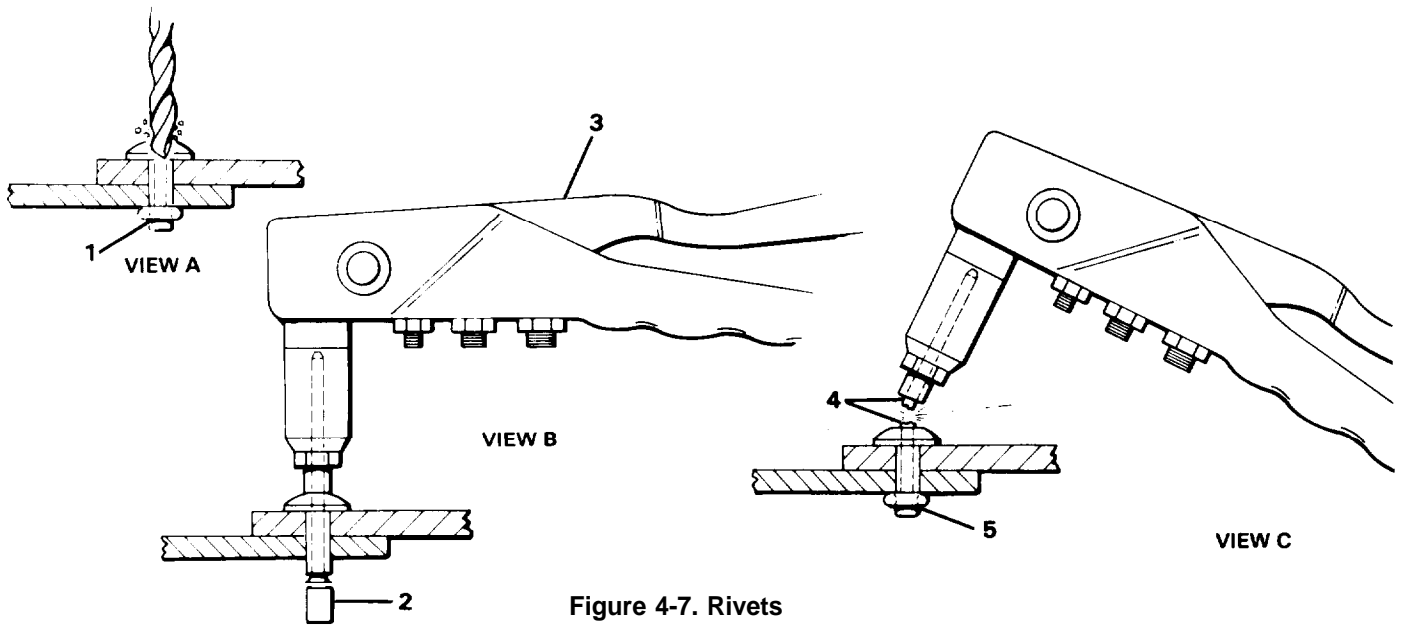

Figure 4-7. Rivets
- a. Refer to Figure 4-7, View A and drill out remainder of damaged rivet (1), if necessary.
- b. Refer to Figure 4-7, View B and place rivet (2) into head of hand riveter (3) and push rivet into hole.
- c. Refer to Figure 4-7, View C and squeeze handle until the rivet stem (4) breaks free. This action compresses the rivet end.